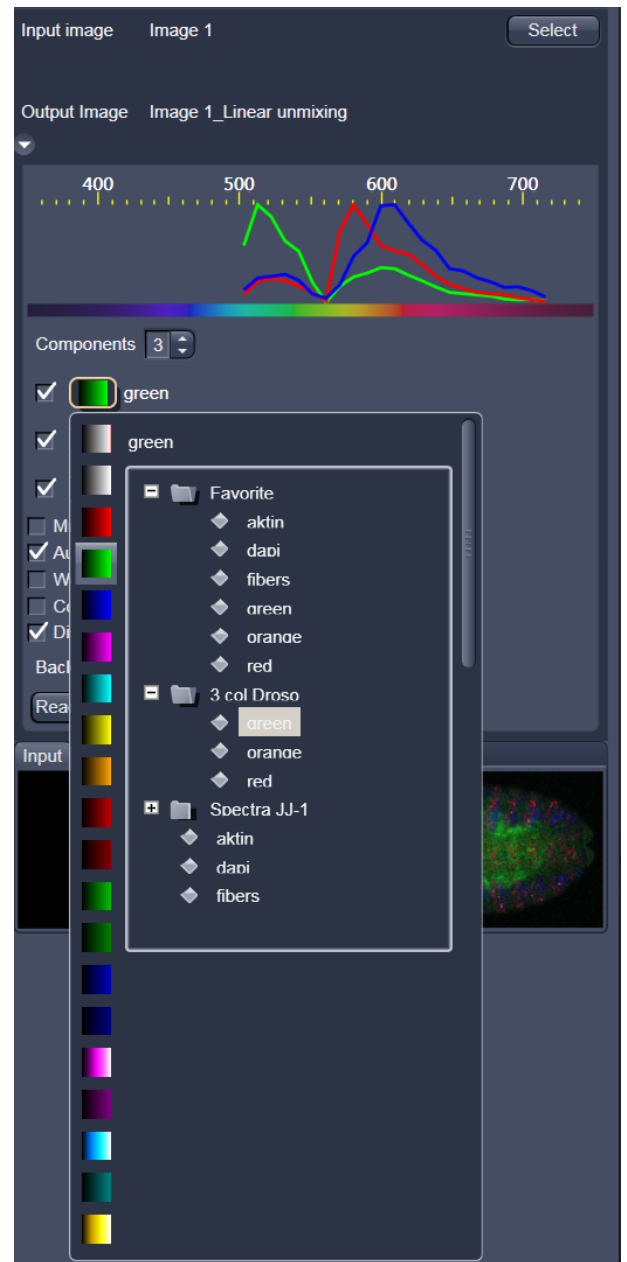

Fig. 5-88 Linear Unmixing: Spectra and LUT assignment
- Select the sample-specific fluorescence dye reference spectra from the **Spectra Database** (Fig. 5-88).
- Assign appropriate colors to the fluorescence channels by clicking on the color flag and choose from the available lookup tables (LUTs) (Fig. 5-88).